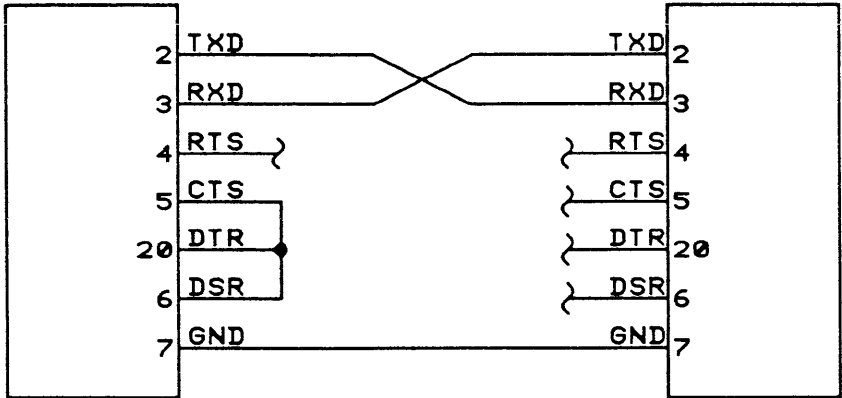

Figure 3-28. Null Modem for Graphics Printer
The wiring connection shown in Figure 3-28 interconnect the K450B to the Graphics Printer Accessory. The RS-232-C interface components are provided in the Graphics Printer Kit (part number A19510). The Graphics Printer may also be interfaced to the GPIB Port.
1. Connect the Graphics Printer to the K450B using the null modem diagram shown in Figure 3-28.